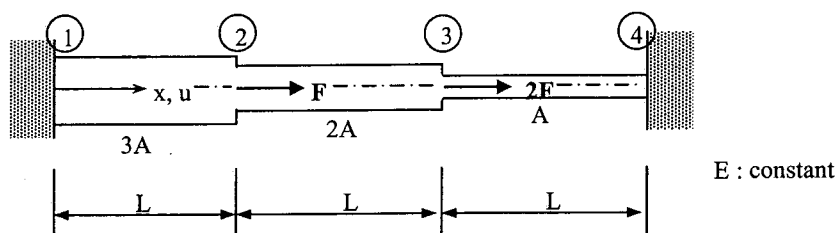

Figure 6
- (b) Figure 6 shows a stepped bar subjected to concentrated loads at points 2 and 3. Both points 1 and 4 are fixed. Cross-sectional areas for segments 1-2, 2-3 and 3-4 are $3A$, $2A$ and A , respectively. Show clearly the process of obtaining the solution for the axial displacement u of the bar by the use of piecewise Rayleigh-Ritz method.